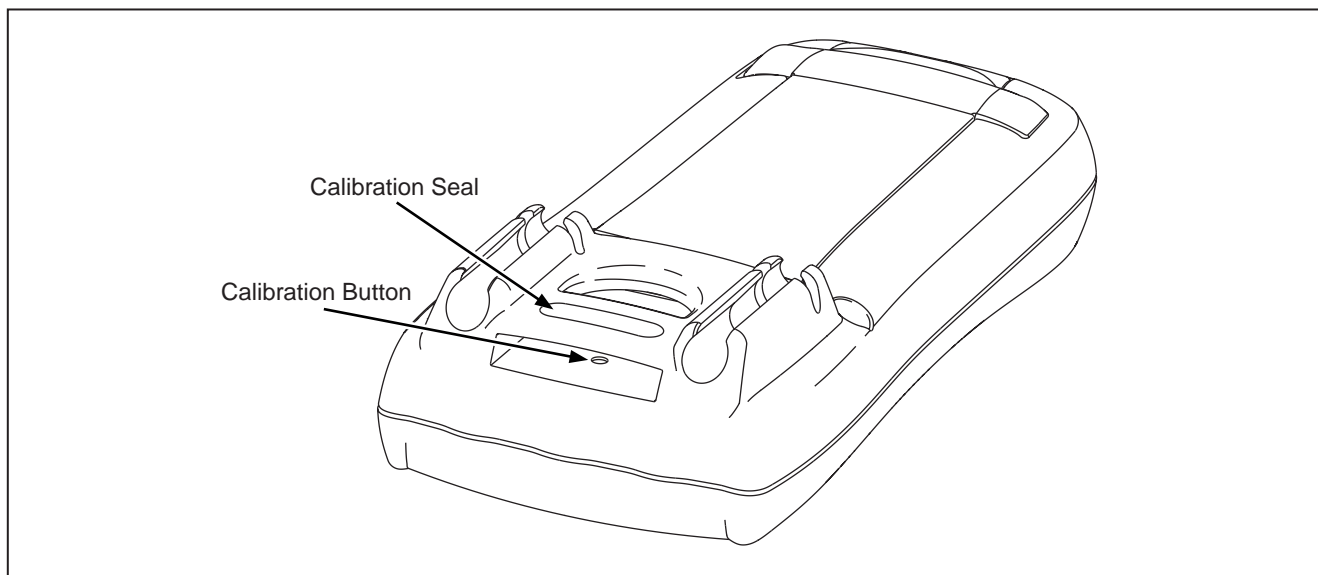

Figure 4. Calibration Access
- Turn the Meter over and find the Calibration Seal located near the top of the Meter (refer to Figure 4).